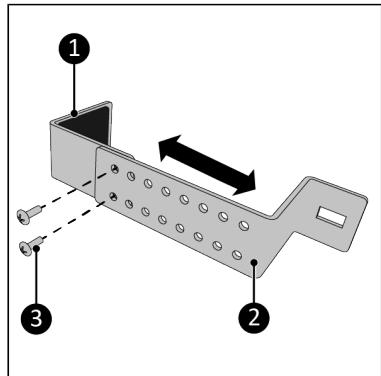

Figure 59.
3. Screw the top part (Figure 59, pos. 1) and the bottom part (Figure 59, pos. 2) together using the two M5 x 7 mm screws (Figure 59, pos. 3). Make sure the width is slightly larger than the width of the window frame.